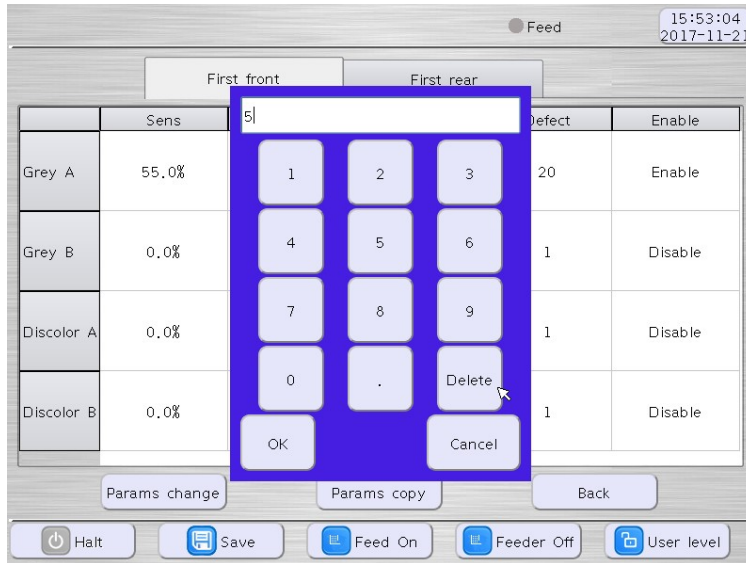

Figure 10-2
- 1) To use the grey level sensitivity Grey A and Grey B, start with the main menu shown in Figure 8-3 after logon to advanced mode. Press the “Set Sens” icon, it will bring you to next page shown in Figure 10-2 10-1. Please note you do not have to use both Grey A and Grey B simultaneously. For example, if you want to remove black material from white, one of the two shall be good enough. For some material which may have a few different colors of defects, you actually can combine “Grey A”, with “Grey B”, sometimes even with “Discolor A”, “Discolor B”, “Tri color 1” and “Tri color 2” to sort out different kind of defects.